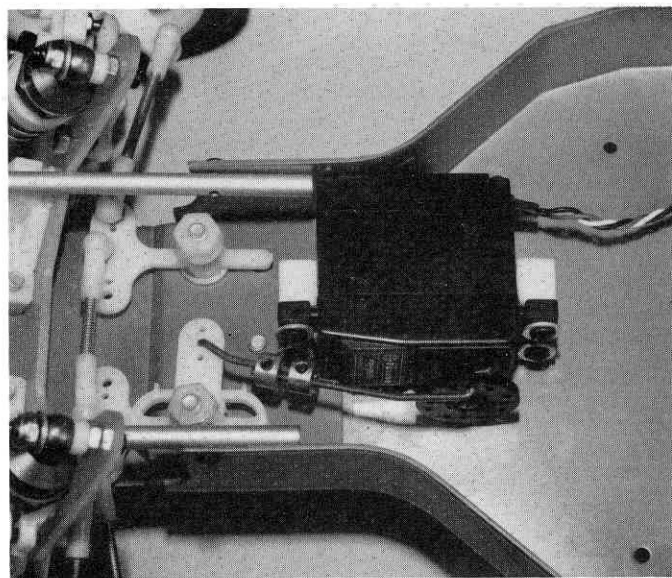

**Fig. 122**
□ **Fig. 122** Page 35 lists the medium-sized servos, along with Novak NES1A. Follow the same procedure for the small servo but use the wider-spaced mounting holes in the chassis. Again, the round servo horns are no longer used for the steering servo.